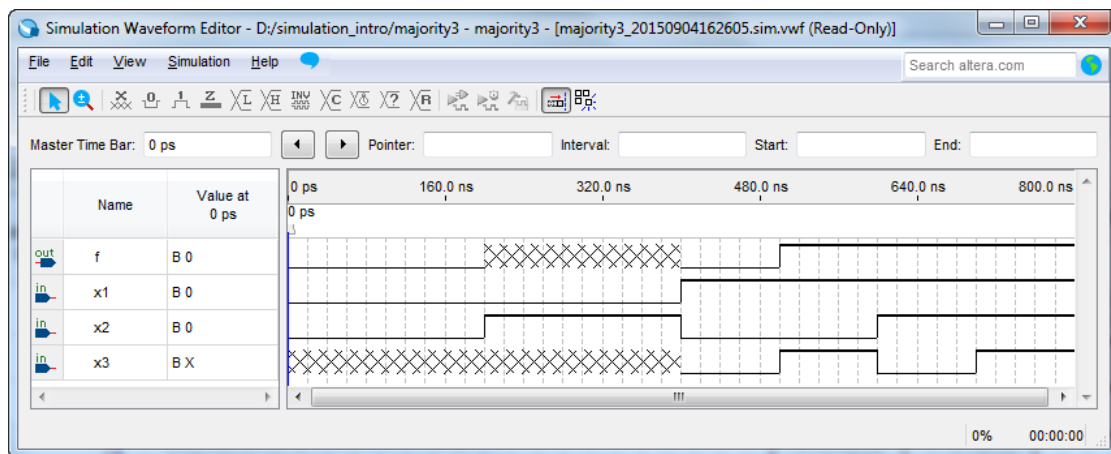

Figure 3. Setting the value of an input to Unknown (X).
This tool allows the selected part of a waveform to be set to the value Unknown (X). An example is given in Figure 3, using the majority3 function circuit that was described in section 2. The value of the signal x_3 has been set to unknown for the first half of the simulation. Running the simulation with these input values results in the output waveform f that is shown in the figure. Note that the value of f is unknown between 200 to 400 ns.